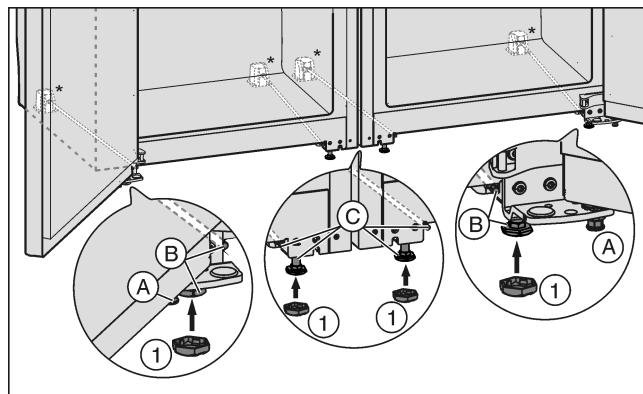

Fig. 22
- If necessary screw in the adjustment feet Fig. 22 (A) at the front of both appliances completely so that there is no floor contact.
- Place the caps Fig. 22 (1) on the four front adjustment feet.
- ▶ Tighten the centre adjustment feet Fig. 22 (C) so that there is no floor contact.
- ▶ Align the combination with the outer adjustment feet Fig. 22 (B).
- ▶ Lower the centre adjustment feet Fig. 22 (C) again until they touch the floor.
- ▶ Then shore up the door: Lower the adjustment feet Fig. 22 (A) onto the bearing bracket until they contact the floor then turn 90° again. The door height can be adjusted at the lower outside bearing brackets: